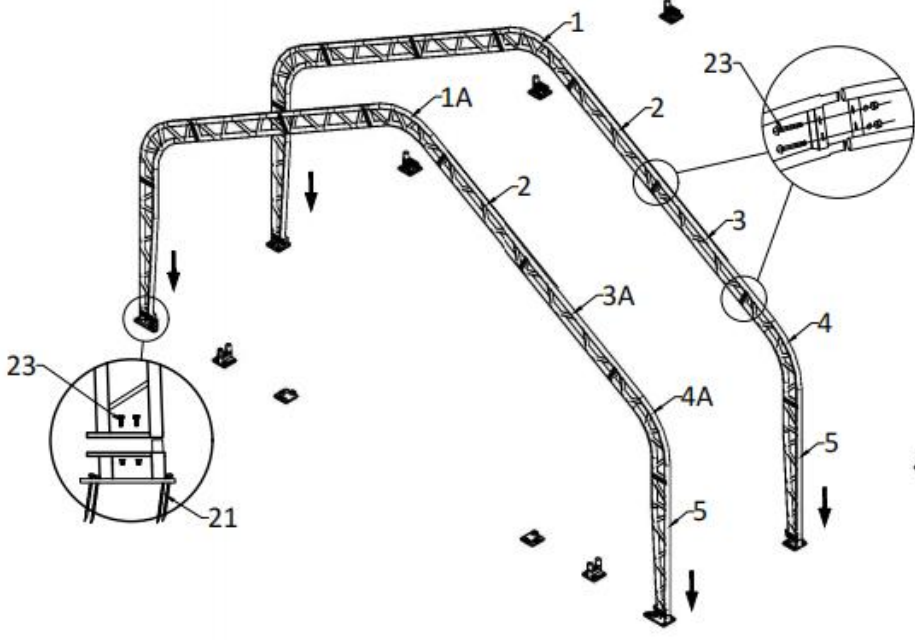

**Figure 3**
1. As Figure 3 & 4 show, to connect the top roof tube(No.1A, 1), upper roof curving tube(No.2), lower roof curving tube (No.3A, 3), iron bent tube (No.4A,4) and standing leg(No.5) with bolt M12x40mm(No.23), then put the arch into tube of the base flange by hoist, and assemble every group arch by turns(see Figure 5).